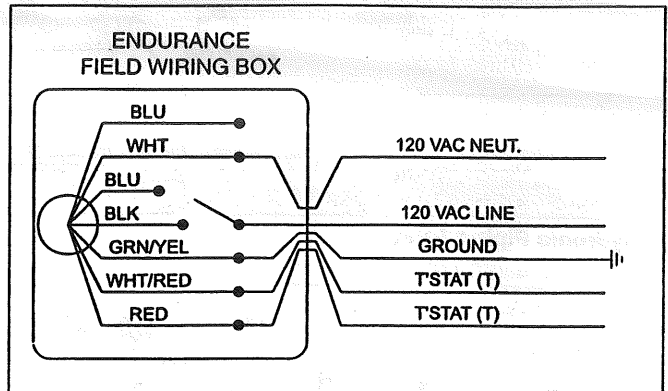

Figure 15. Single Zone With Room Thermostat (internal pump provides system flow).
1. Main power: Connect a fused 120 volt supply (15 amp) to the main power switch (see Figure 15) (hot leg is connected directly to switch). Neutral leg to white wire. Ground wire can be connected to the grounding screw in the box or on the switch.